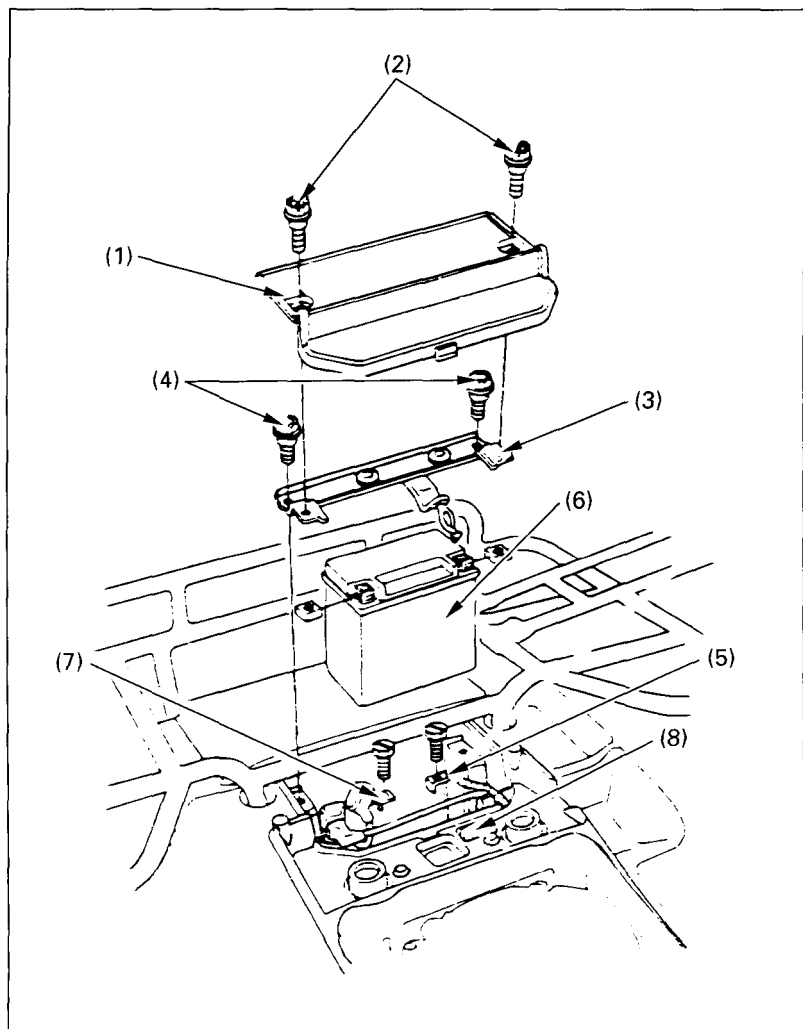

Fig. 4-19
3. Remove the battery box cover (1) by removing the mount bolts (2).
4. Remove the battery holder (3), (Fig. 4-19) by removing the mount bolts (4).
5. Disconnect the negative (—) terminal lead (5) from the battery (6) first, then disconnect the positive (+) terminal lead (7).
- * After installing the battery, check to see if the battery cables are routed correctly as shown on the label (8).